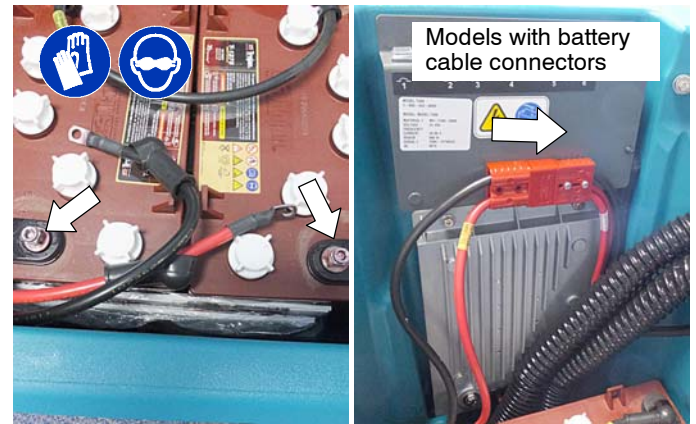

Fig. 14
8. Reconnect battery cables to battery pack (Figure 14).